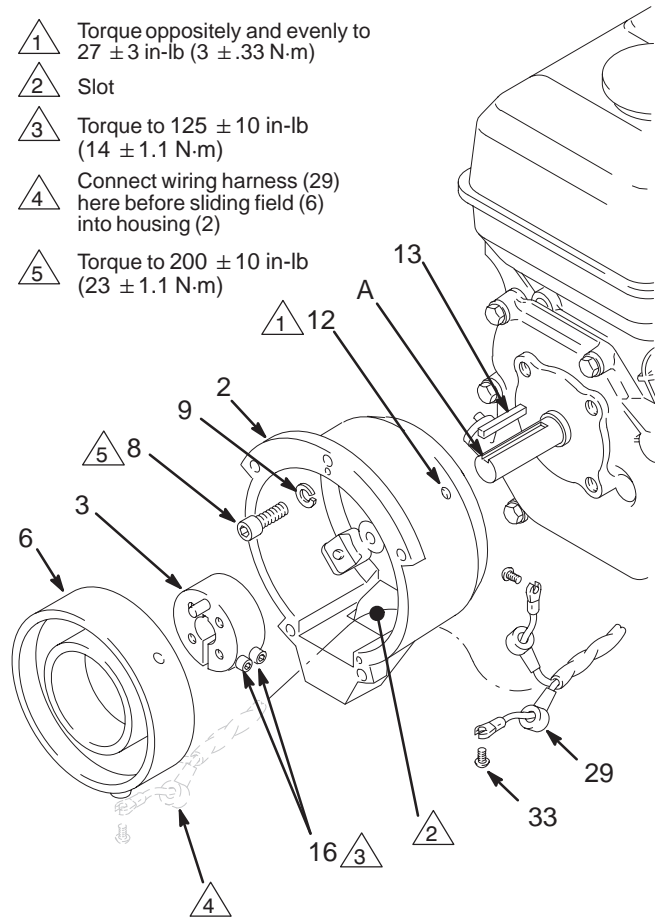
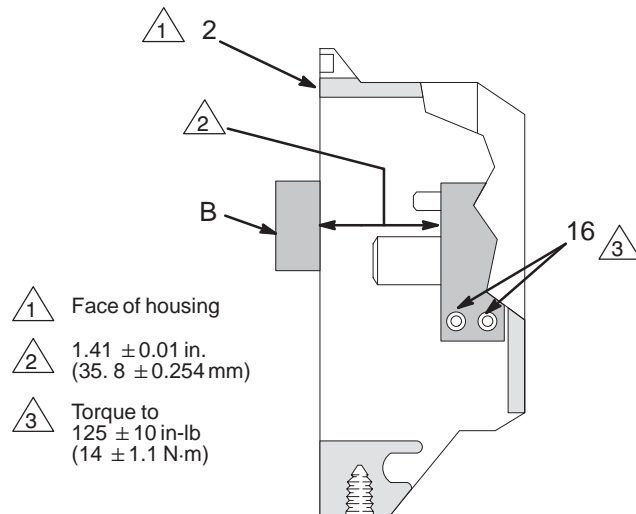

Fig. 22
Fig. 23
1. Install the **clutch housing (2)**, capscrews (8) and lockwashers (9) on the engine. Torque the capscrews (8) to  $200 \pm 10$  in-lb ( $23 \pm 1.1$  N·m). See Fig. 22.
2. Install the engine shaft **key (13)**. See Fig. 22.
3. Press the **clamp (3)** onto the engine shaft. Maintain the  $1.41 \pm 0.01$  in. ( $35.8 \pm 0.254$  mm) dimension shown in Fig. 23.
4. To check the dimension, place a rigid, straight steel bar (B) across the face of the clutch housing (2). Use an accurate measuring device to measure the distance between the bar and the face of the clamp. Torque the two screws (16) to  $125 \pm 10$  in-lb ( $14 \pm 1.1$  N·m).
5. Connect the wires of the harness (29) to the screws (33) in both places on the field. Pull the plastic caps (C) up and snap them over the screws. Guide the wires of the harness (29) through the slot in the clutch housing. Slide the **field (6)** into the clutch. Align the setscrew holes in the field and the clutch housing (2). Tighten the setscrews (12) oppositely and evenly, to  $27 \pm 3$  in-lb ( $3 \pm .33$  N·m). See Fig. 22.